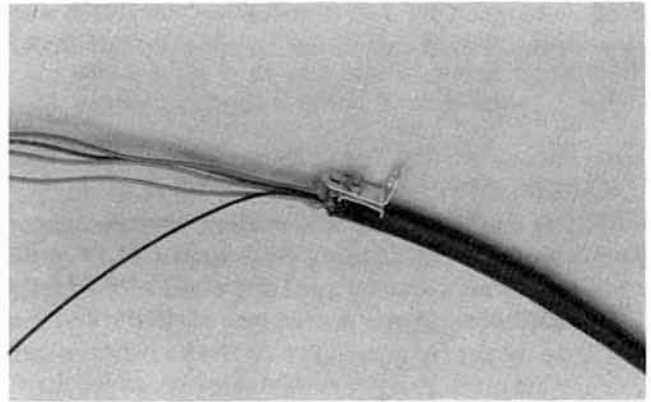

Figure 11
6.08 Select one of the "L" shaped Shield Connector brackets from the package. Install it over the Shield Connector stud. Secure it loosely with the Shield Connector stud nut. Figure 11.